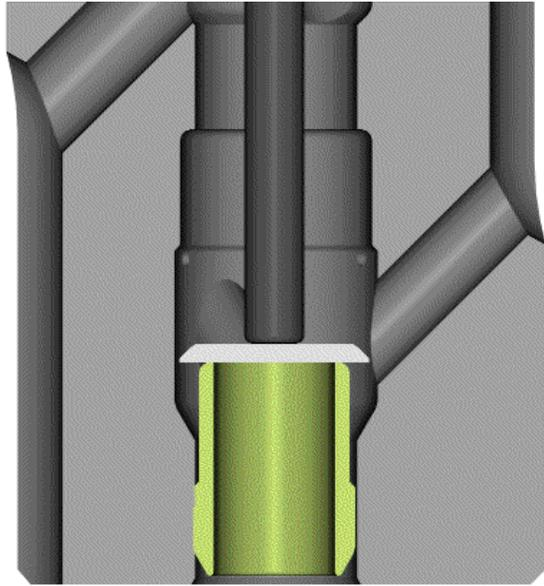

Figure 2-2G
- Use a hammer or press to force the sleeve down into the small bore of the piston. The sleeve will coil into the small bore, (refer to figure 2-2G).
- Once the sleeve is coiled in the small end bore of the piston, remove the rod and flip the piston 180 degrees to allow the removal tool to fall out. Do not continue to force the sleeve out of the piston using the removal tool once the sleeve is coiled in the small bore and flush with the end of the piston as shown in figure 2-2G. The removal tool will not fit through the small end bore and will cause damage to the bore the sleeve rides in.